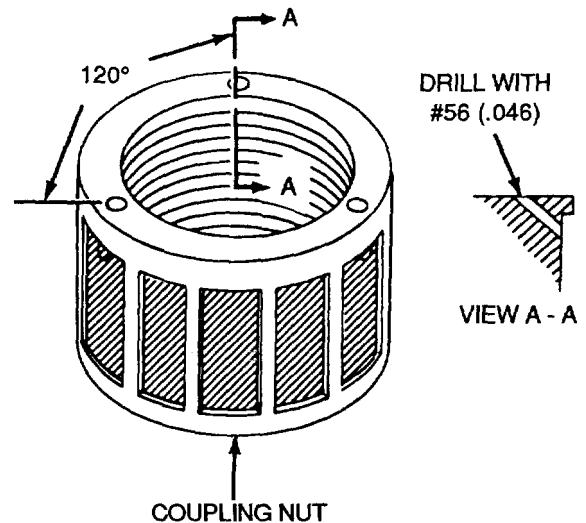

Figure 6. Lockwire Hole Locations
14. **CONNECTOR PREPARATION.** Threaded coupling connectors shall be lockwired using the double twist method. When holes are not present in the coupling ring lockwire holes must be drilled (Figure 6).